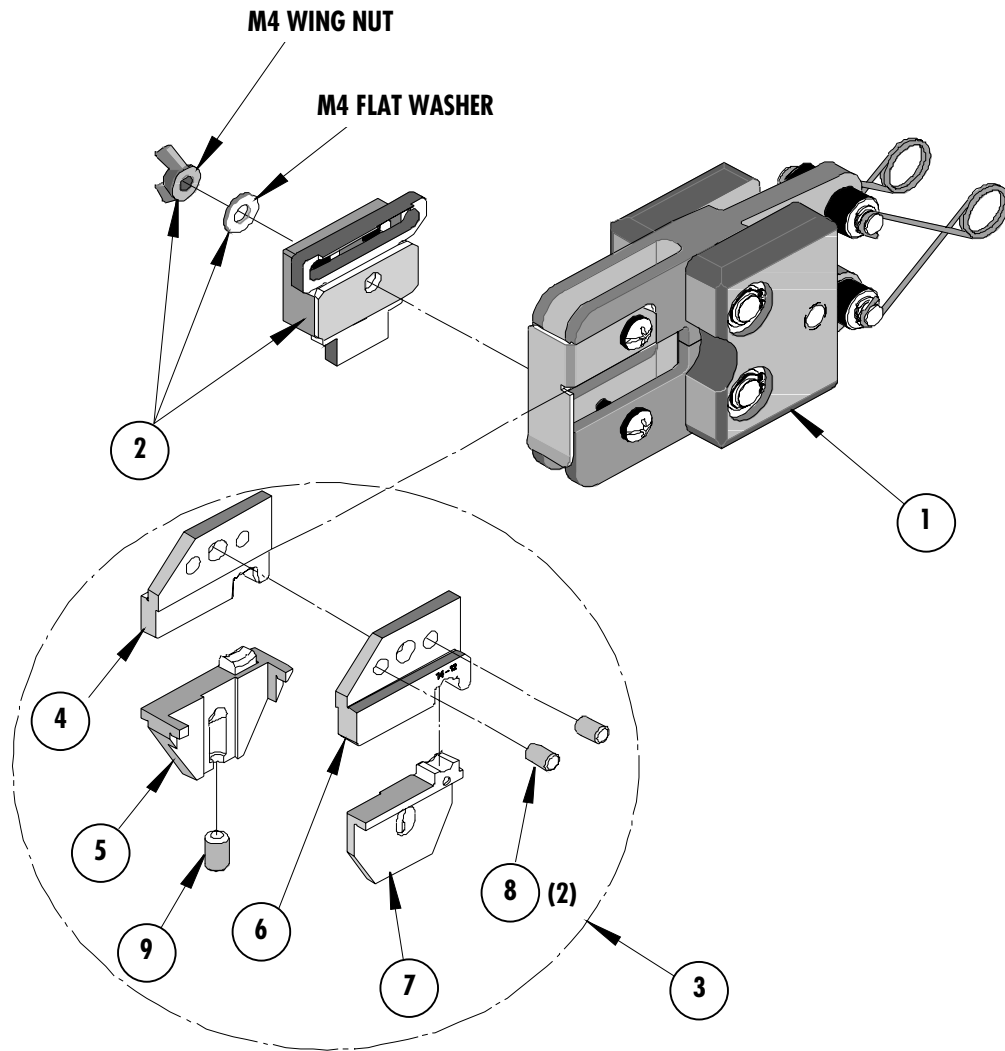

Figure 5
3. Make certain all pins, pivot points and bearing surfaces are protected with a thin coat of high quality machine oil. Do not oil excessively. The 64005-1600 (AT-2200HD) was engineered for durability, but like any fine piece of equipment it needs cleaning and lubrication for a maximum service life of trouble-free crimping. A light oil, such as 30 weight automotive oil used at the oil points shown in Figure 5, every 5,000 crimps or monthly will significantly enhance the tool life and ensure a stable calibration.